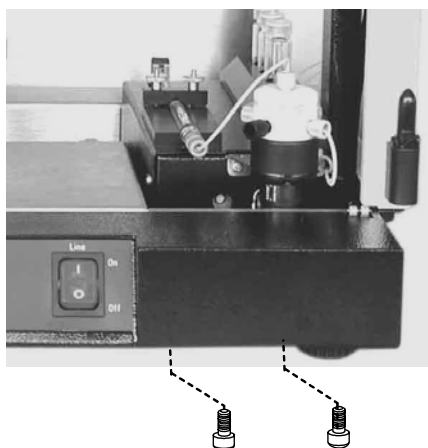

FIGURE 3-6 Removing the Screws of the Dosage Unit
- e) Remove the two screws that hold the module (FIGURE 3-6).